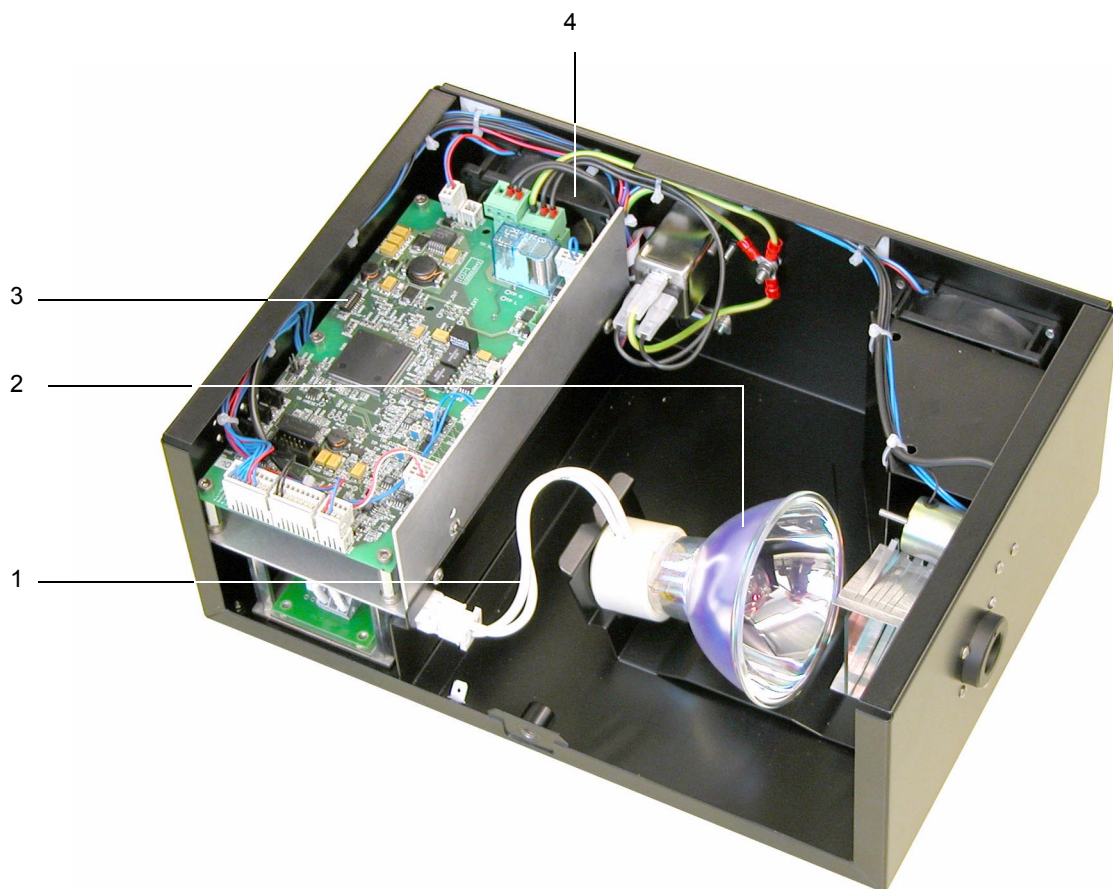

Fig. 13: Illumination Module
2. **Fig. 13:** Select CAN basic address with the DIP switch (3). The node ID is set with the corresponding DIP switches. The values for the individual switches are: **01 h, 02 h, 04 h, 08 h, 10 h, 20 h, 40 h, 80 h** from the front side to the rear side.
4. Check whether the HQI lamp (2) is positioned correctly. Make sure that the lamp is installed in such a way that its mains supply cable (1) faces upwards, so it is not cramped under the lamp.
- pre operational mode after being switched on, i.e. only fan no. 1 is running (see **Fig. 13, (4)**)